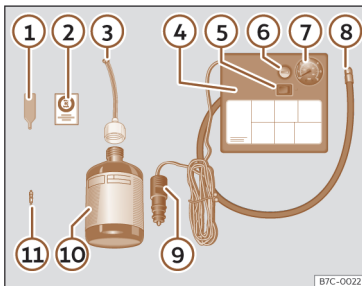

Fig. 38 Standard representation: anti-puncture kit contents.
The anti-puncture kit is located underneath the floor covering in the luggage compartment. It includes the following components >>> **Fig. 38:**
- Unscrew the tyre valve cap and insert. Use the >>> **Fig. 38** ① tool to remove the insert. Place it on a clean surface.
- Shake the tyre sealant bottle vigorously >>> **Fig. 38** ⑩.
- Screw the inflator tube >>> **Fig. 38** ③ into the sealant bottle. The bottle's seal will break automatically.
- Remove the lid from the filling tube >>> **Fig. 38** ③ and screw the open end of the tube into the tyre valve.
- Place the insert back into the tyre valve using the tool >>> **Fig. 38** ①.
- Screw the compressor tyre inflator tube >>> **Fig. 38** ⑧ into the tyre valve.
- Check that the air bleed screw is closed >>> **Fig. 38** ⑥.
- Insert the connector >>> **Fig. 38** ⑨ into the vehicle's 12-volt socket >>> **page 152**.
- Turn the air compressor on with the ON/OFF switch >>> **Fig. 38** ⑤.
- Attach the sticker >>> **Fig. 38** (2) to the instrument cluster, within the driver's visual field.
Screw the inflator tube >>> **Fig. 38** (5) again and check the pressure on the gauge (6).